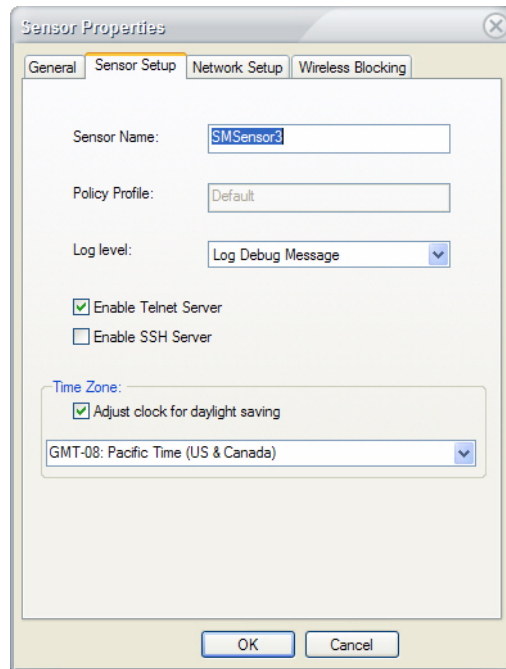

Figure 4-43: Changing Sensor Setup
- 4) Click the Sensor Setup tab. The Sensor Properties dialog box refreshes. See Figure 4-43.